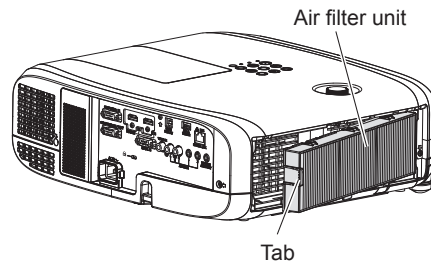

Fig. 1
2) Remove the air filter cover. (Fig. 1)
1) Wash the air filter unit. (Fig. 1)
1) Attach the air filter unit to the projector. (Fig. 1)